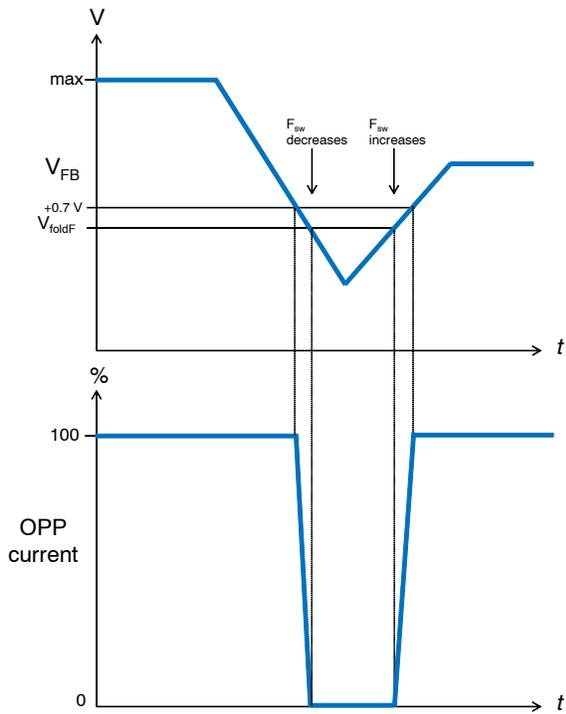

**Figure 37. Over Power Protection is provided via the bulk voltage image present on Brown-Out pin**
at low line. NCP1256 senses the input voltage via a resistive network primarily used for brown-out protection. This line image is transformed into a current information further applied to the current sense pin (CS). A resistor placed in series from the sense resistor to the CS pin will create an offset voltage proportional to the input voltage variation. An added current sink will ensure a 0 OPP current at low line, leaving the converter power capability intact in the lowest operating voltage. Figure 37 presents the internal simplified architecture of this OPP circuitry.